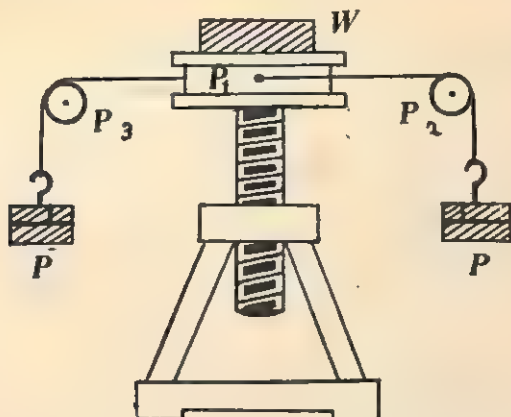

Fig. 1.5. Screw-Jack modified for determining its M.A., etc.
(2) Remove the arm  $D$  from the screw-jack and replace it by a suitable pulley  $P_1$  of a large diameter and with grooved rim as shown in Fig. 1.5.
(3) Wind two strings round the rim of the grooved pulley  $P_1$  and pass them over two other pulleys  $P_2$  and  $P_3$  as shown in Fig. 1.5. Attach the hangers to the other ends of these strings.
(4) Put on the load  $W$  on the screw-jack. Now place on the hangers some known equal weights. Go on adding equal weights